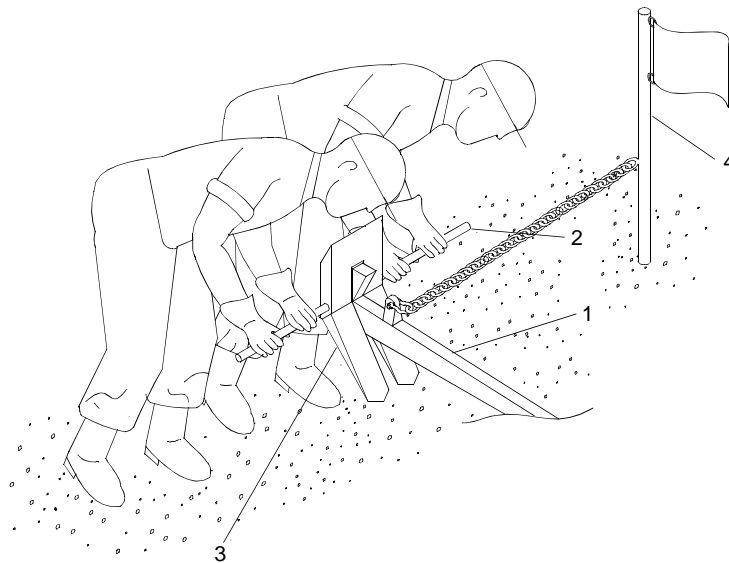

Figure 13. Embedding Onshore Anchors in Beach
2. Using assistant, lift anchors (figure 13, item 1) by stabilizers (figure 13, item 2) and position flukes (figure 13, item 3) into sand depression.
3. Push down on the anchor (figure 13, item 1) to embed flukes (figure 13, item 3) deeply in sand.
4. Attach anchor pendant assembly (figure 13, item 4) to anchor (figure 13, item 1).
5. Bury anchors (figure 13, item 1) in sand to stabilize them and minimize movement.